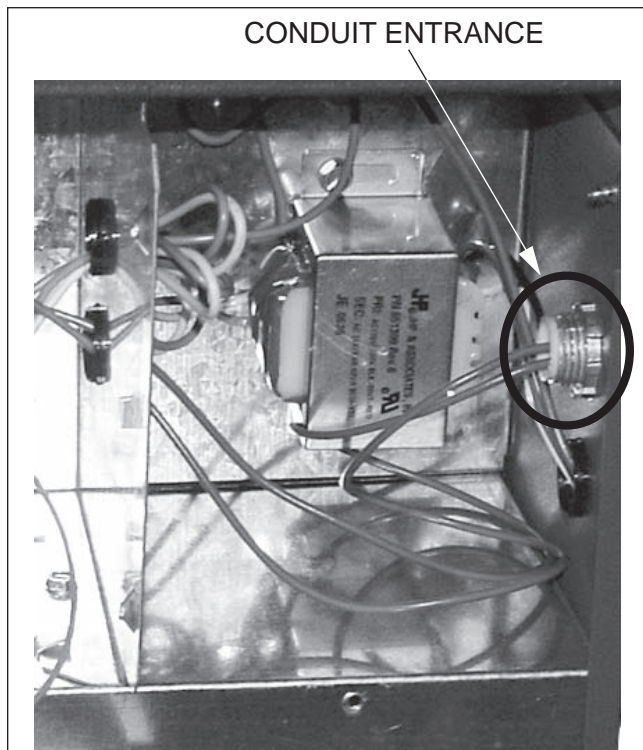

Fig 2: Transformer Box
16. Locate the pre-wired hard conduit off the flow switch and route through the upper control panel as indicated in Fig 2.